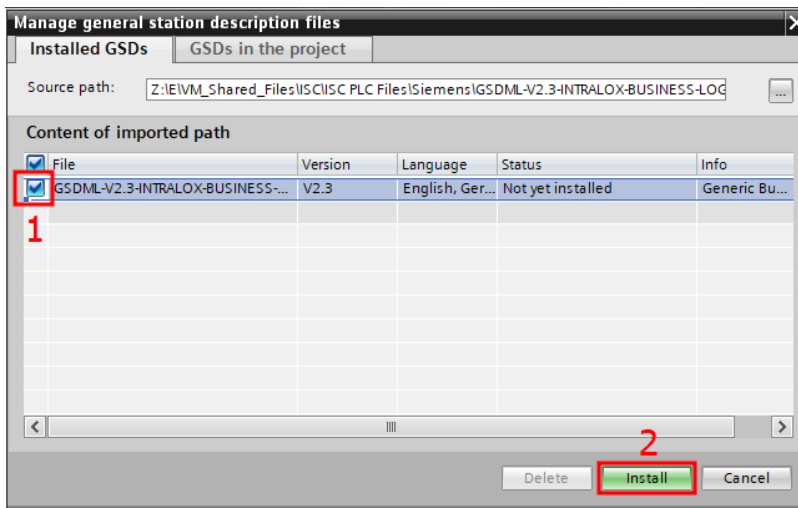

Figure 4: Install GSD File
7. Check the box of the correct GSDML file in the Manage window and select “Install,” Figure 4.